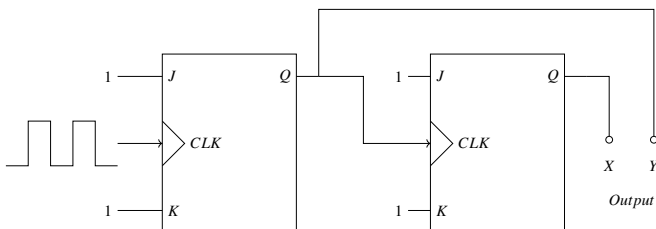

Fig. 5.19
19. The circuit shown in Fig. 5.19 below uses ideal positive edge-triggered synchronous  $J-K$  flip flops with outputs  $X$  and  $Y$ . If the initial state of the output is  $X = 0$  and  $Y = 0$  just before the arrival of the first clock pulse, the state of the output just before the arrival of the second clock pulse is (GATE-IN2019,12)